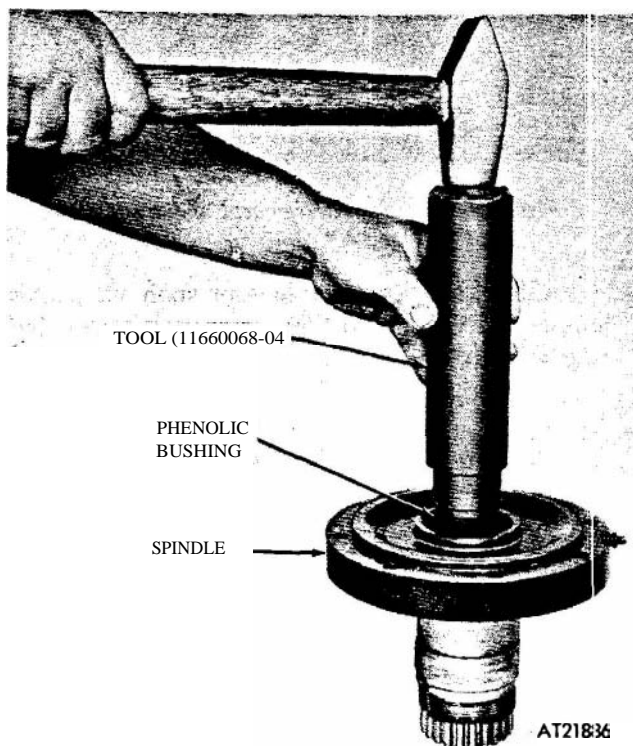

Figure 2-233. Phenolic bushing installation.
(1) Insert spindle phenolic bushing using installer tool (11660068-04) (fig 2-233).